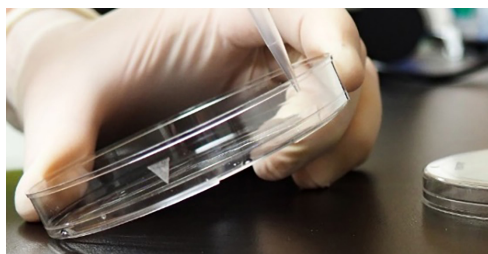

Figure 5-6: Correct angle of scWest chip and Petri dish when collecting excess cells and performing washes.
- 4 Gently tilt the scWest chip/Petri dish at a $\sim 45^\circ$ angle so the cell solution pools at the bottom of the chip (Figure 5-6).